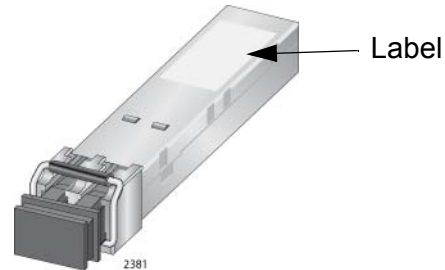

Figure 91. Labels on SFP and CSFP Transceivers
- To install an SFP or a CSFP transceiver in a slot on the top row of the line card, orient it with the label on top, as shown in Figure 91. To install it into a slot on the bottom row of the line card, orient it with the label on the bottom.